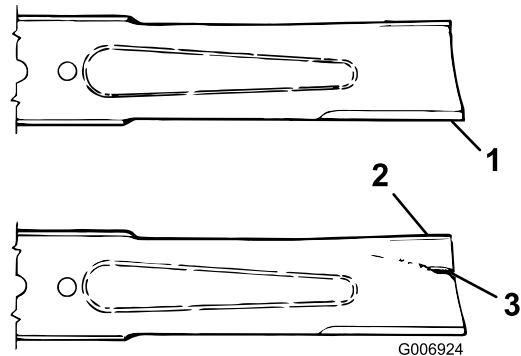

Figure 29
2. Inspect the cutting edges (Figure 29). If the edges are not sharp or have nicks, remove the blades and sharpen them; refer to Sharpening the Blades.
3. Inspect the blades, especially the curved area (Figure 29). If you notice any damage, wear, or a slot forming in this area (Figure 29), immediately install a new blade.